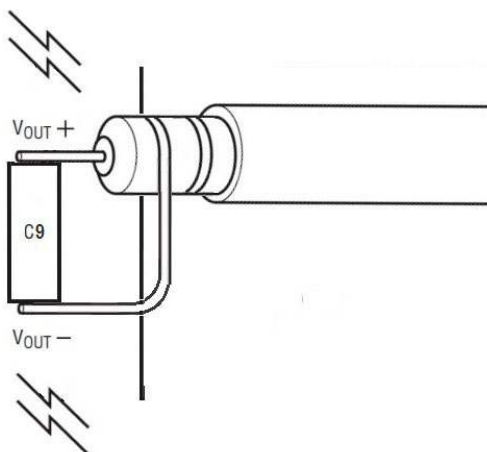

Figure 2. Measuring Output Ripple at Output Capacitor C9
**NOTE.** When measuring the input or output voltage ripple, care must be taken to avoid a long ground lead on the oscilloscope probe. Measure the output voltage ripple by touching the probe tip directly across the output capacitor. See Figure 2 for the proper scope technique.